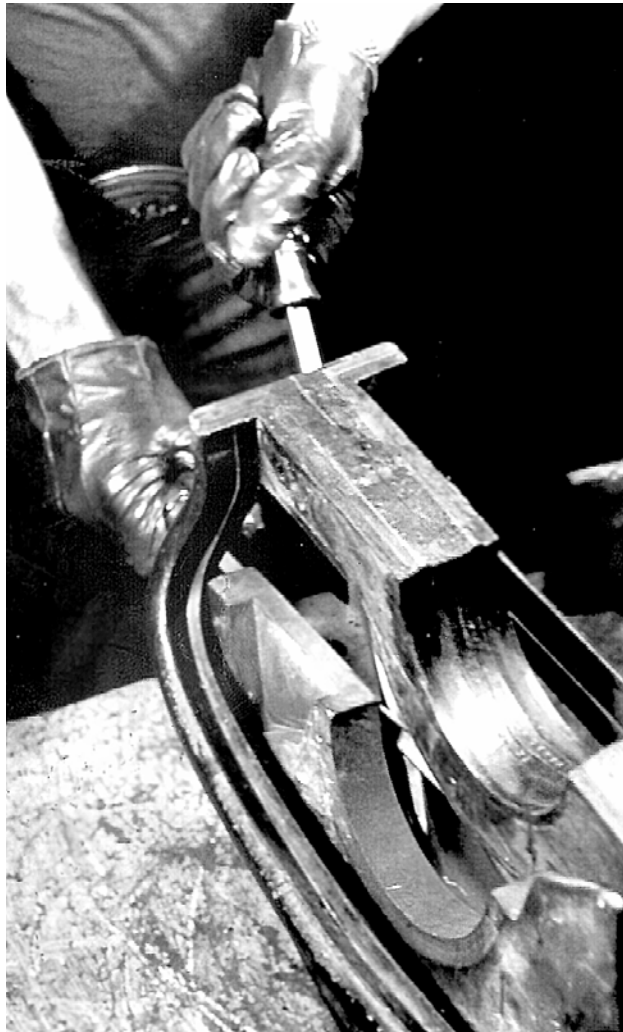

Figure 4-19. Pry Ram Rubber Off the Ram Block
7. Pry ram rubber off the ram block as shown in Figure 4-19. See Figure 4-20 for ram rubber showing thread area in trunnion nut.